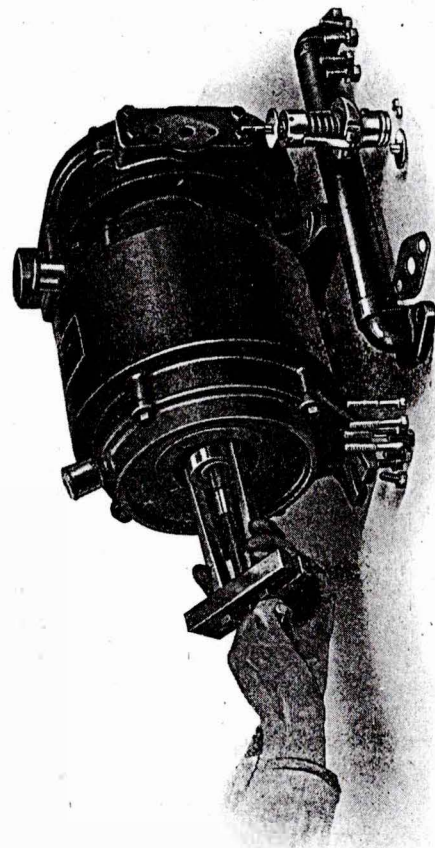

FIG. 3.
10. Using the "claws" instead of the bolts, apply the extractor to the ball-bearing and draw it off the shaft. Remove the oil sleeve and deflector (2368B). (See Fig. 3.) If tight, remove with housing (I.2377A).